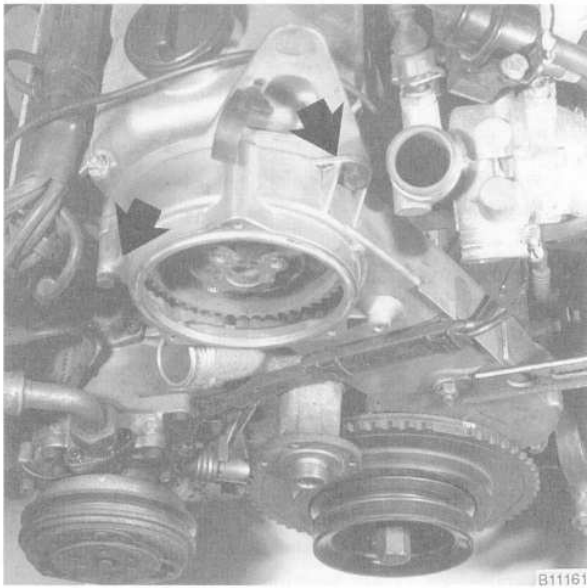

Fig. 3. Upper camshaft drive belt cover mounting bolts (arrows).
10. Lift the cover out together with the engine lifting bracket. See Fig. 3.